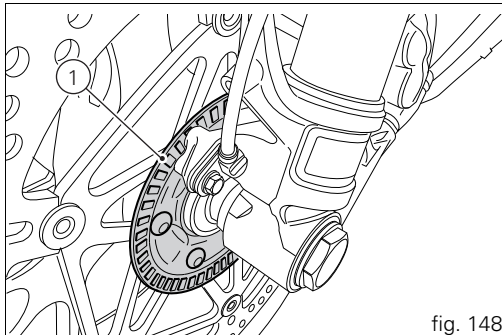
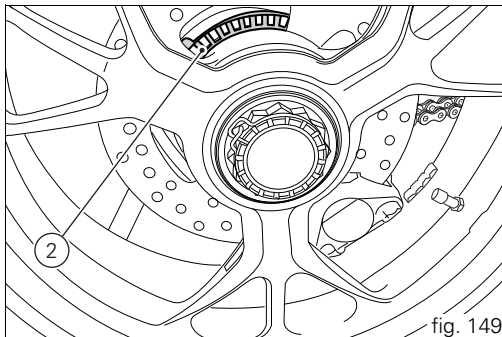

fig. 148
fig. 149
Check that the front (1, fig. 148) and rear (2, fig. 149) phonic wheels are clean.
1) Move the ignition key to ON (fig. 148). Make sure both the green light N (2) and the red light  (4) on the instrument panel come on.